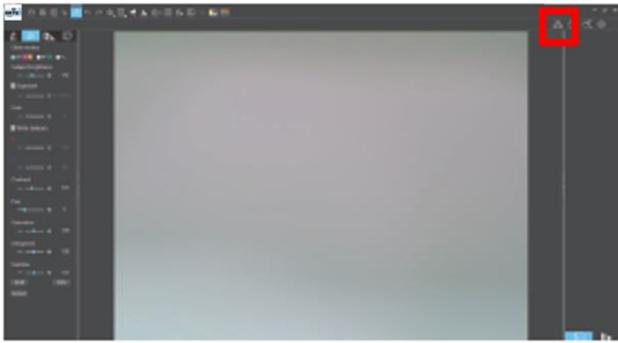

Figure 1
- a. On Windows PC, click the camera selection icon  in the upper right corner of SKYE View 3 (Figure 1). The list automatically shows all cameras in the current local area network (Figure 2). Select a camera by clicking on it, then click Connect. SKYE View 3 supports switching between cameras on the same LAN at any time.